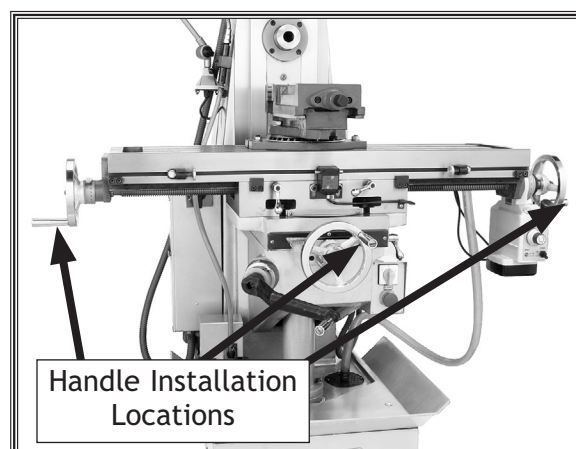

Figure 12. Locations to install handles.
1. Thread handles into the face of the handwheels (see **Figure 12** for locations).